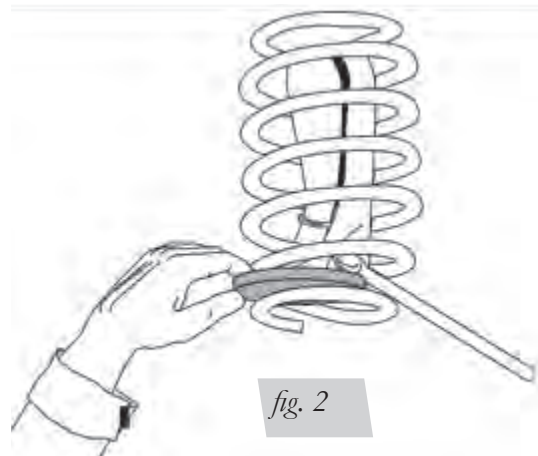

fig. 2
6. Push cylinder to the top of the coil and insert protector on top of lower spring seat (See Figures 2).